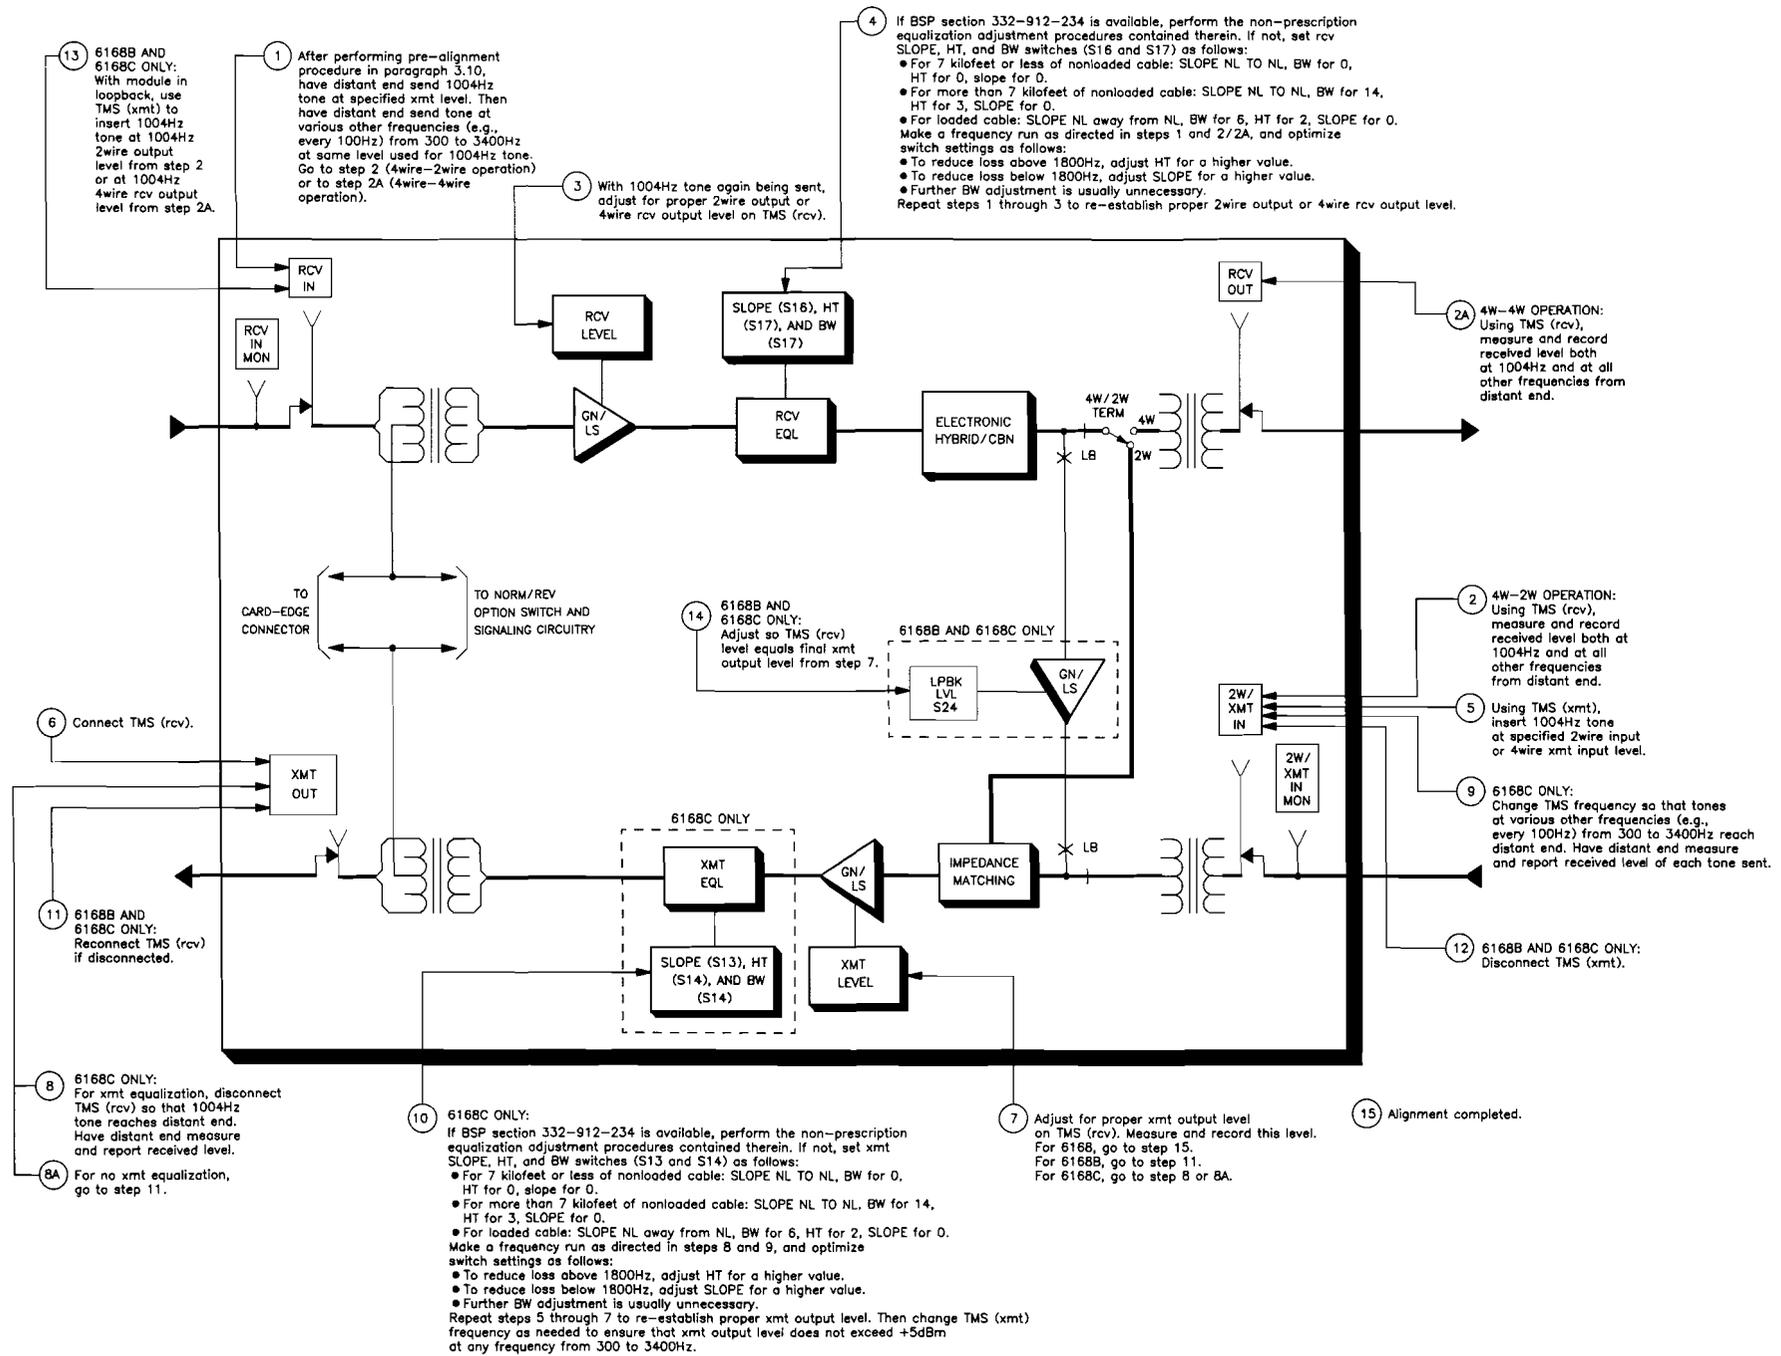

figure 13. Non-prescription alignment procedure for 6168/X
3.11 Align the 6168/X as directed in the non-prescription alignment procedure, figure 13 of this practice.
Note 1: *The procedure in figure 13 is based on the assumption that certain required local input and output levels are available from circuit records. If this is not the case, some steps may have to be modified to include end-to-end measurements.*